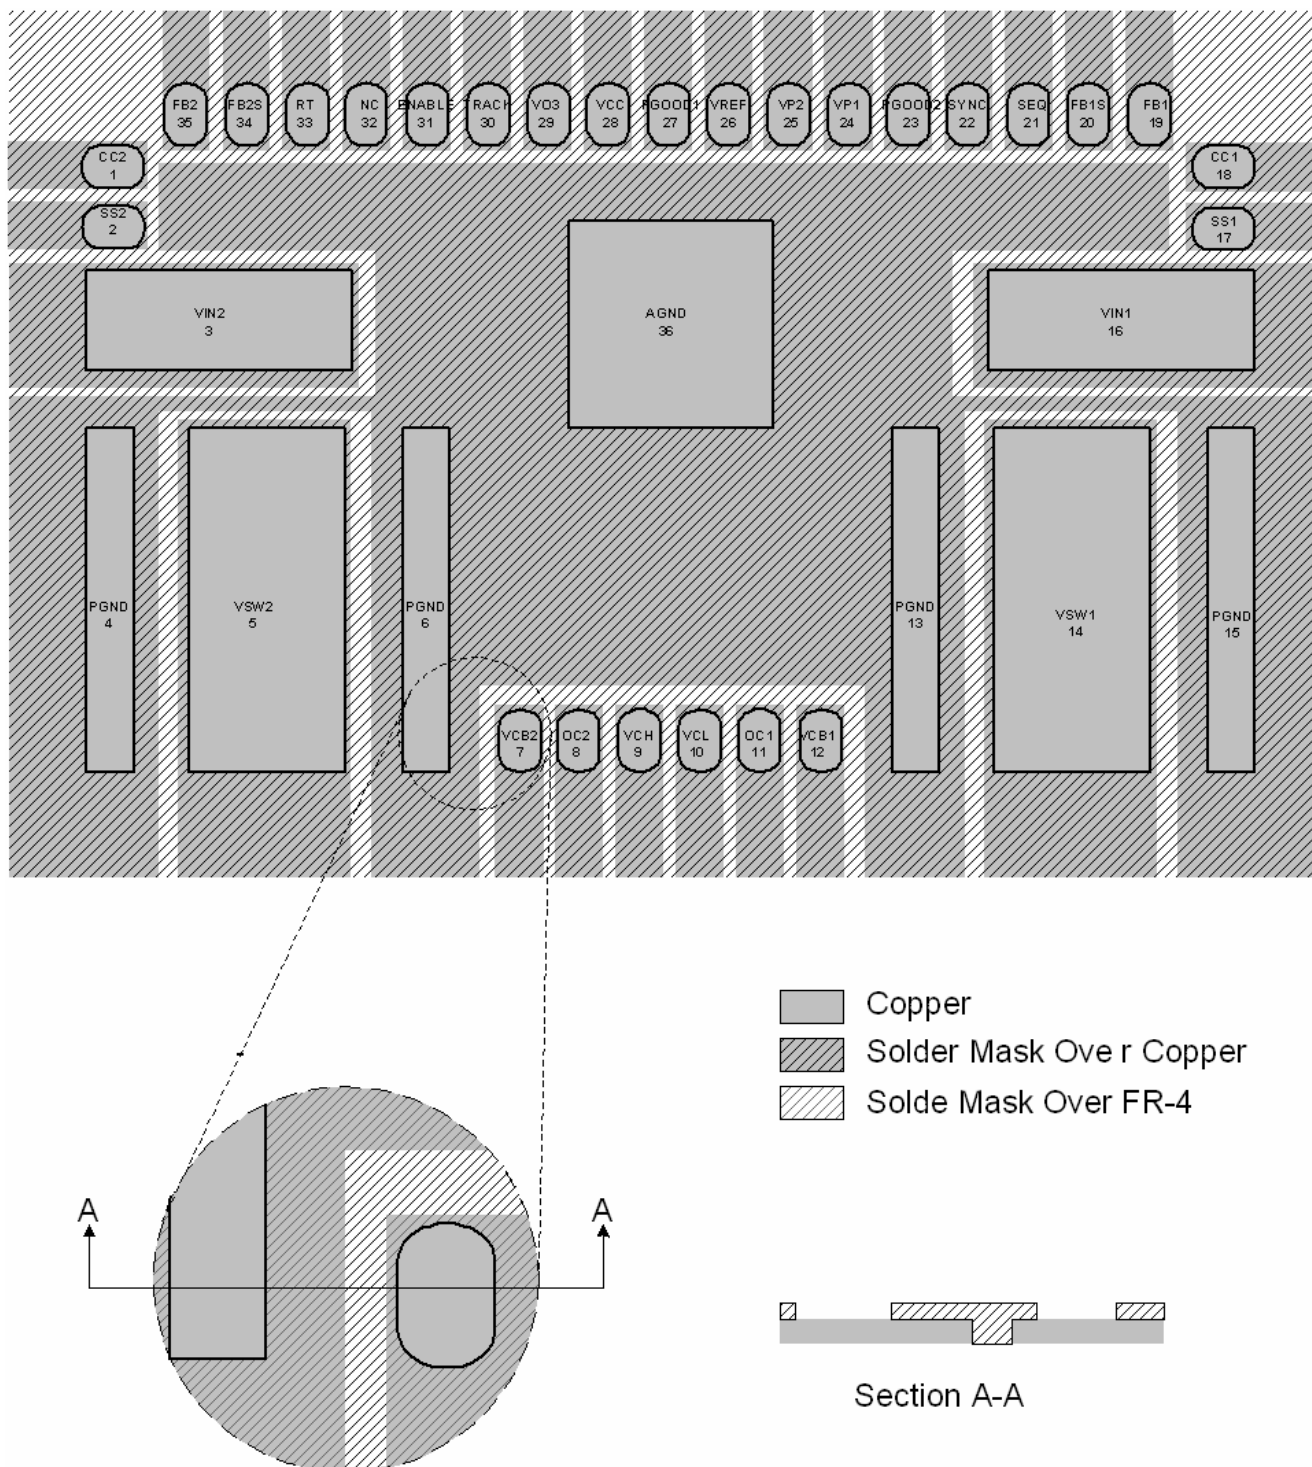

Fig. 26
- All pads on the iP1206 footprint design need to be Solder-mask defined (see Figure 26). Also refer to International Rectifier application notes AN1028 and AN1029 for further footprint design guidance.